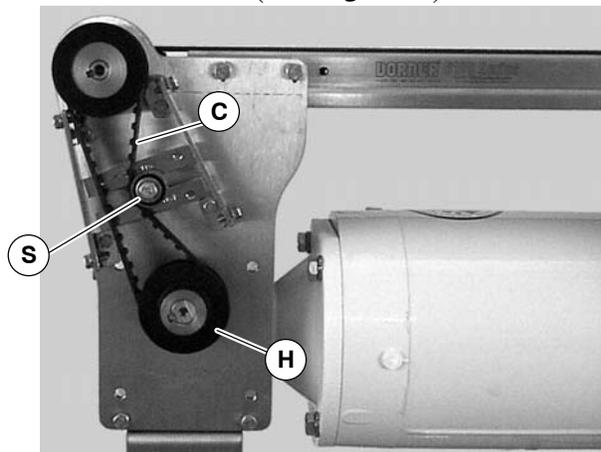

**Figure 20**
1. Loosen four (4) screws (U of Figure 20) and remove cover (E).